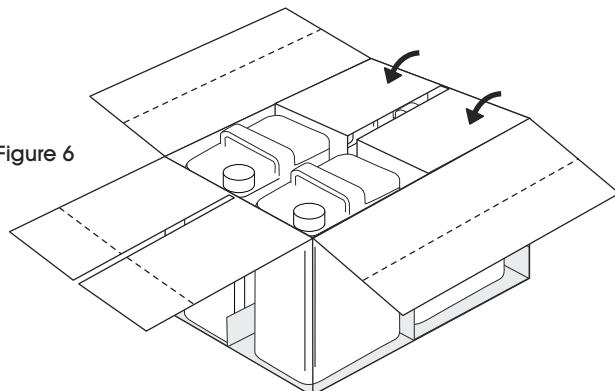

Figure 6
7. Fold four small side flaps along dotted lines on top of box. Tuck to form box top. (See Figure 6)